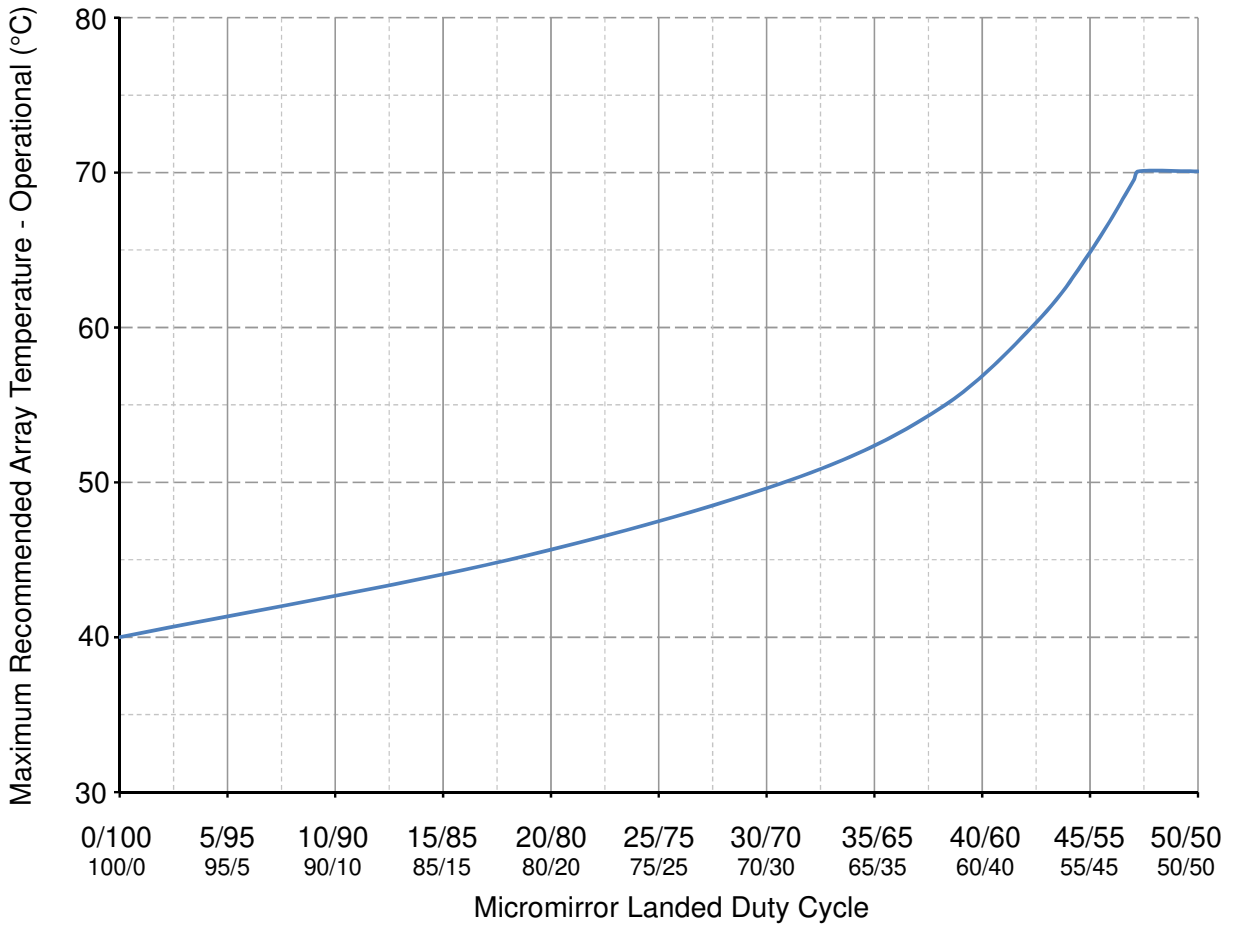

Figure 6-1. Maximum Recommended Array Temperature—Derating Curve
- (11) Long-term is defined as the usable life of the device.
- (12) Per Figure 6-1, the maximum operational array temperature should be derated based on the micromirror landed duty cycle that the DMD experiences in the end application. See Section 7.7 for a definition of micromirror landed duty cycle.
- (13) Array temperatures beyond those specified as long-term are recommended for short-term conditions only (power-up). Short-term is defined as cumulative time over the usable life of the device and is less than 500 hours.